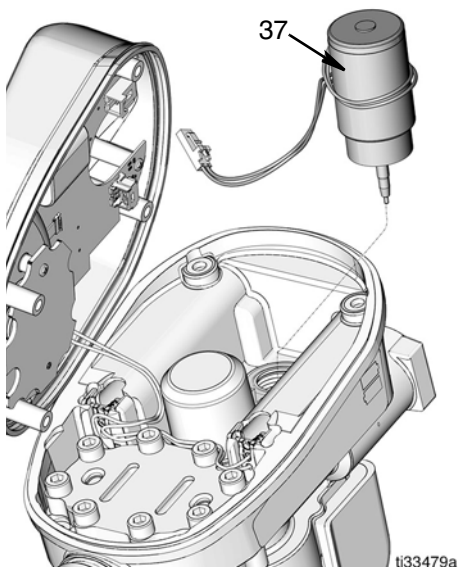

FIG. 29
14. Reinstall and firmly hand tighten the solenoid (37) (FIG. 29).